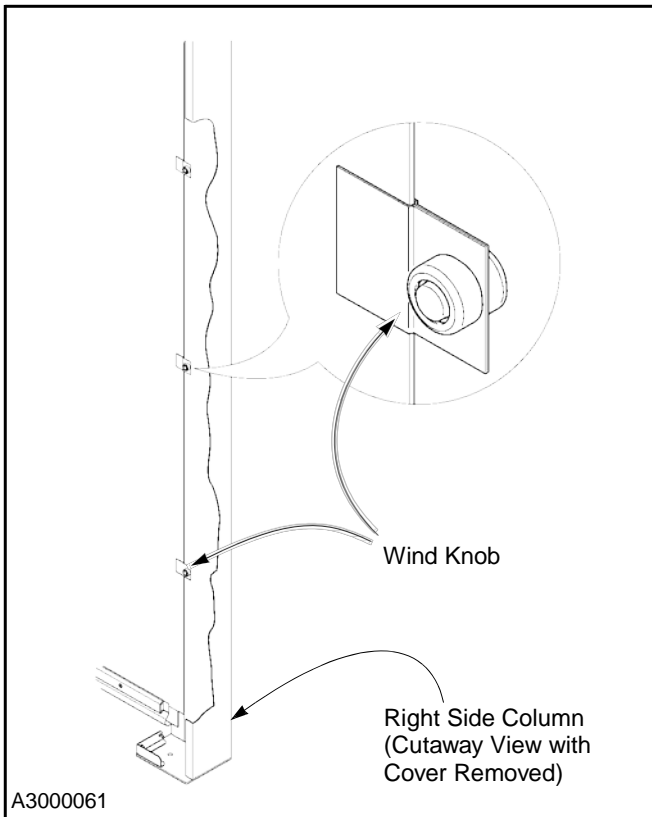

Figure 15
5. Inspect the wind knobs along the outer edges of the panel. They must be in place and secure. Repair or replace them as required. (See Figure 15.)